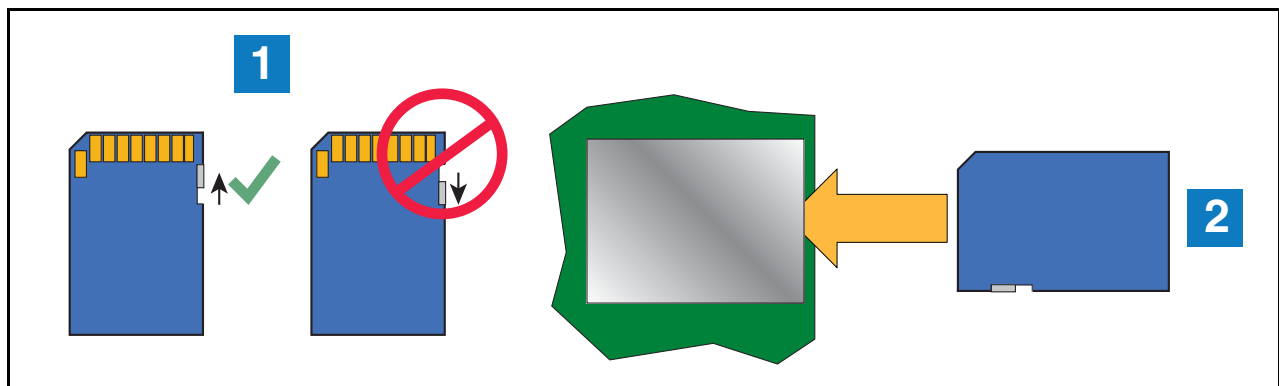

Figure 11. Installing SD Card
13. Press the outer edge of the SD card towards the read of its enclosure and it should spring out so it can be removed. Remove the SD card from the old CPU board and check that the read/write-protect switch on the side of the card is in the position shown in (item 1 Figure 11). Insert the SD card into its enclosure on the new CPU board with the contact side facing the CPU board (item 2) and gently push the card into its enclosure until it clicks into the enclosure's latch.